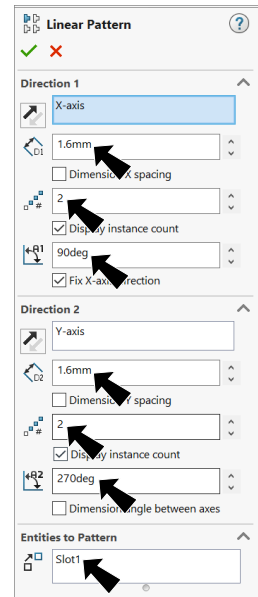

Fig. 36
- under Entities to Pattern, **Fig. 36**